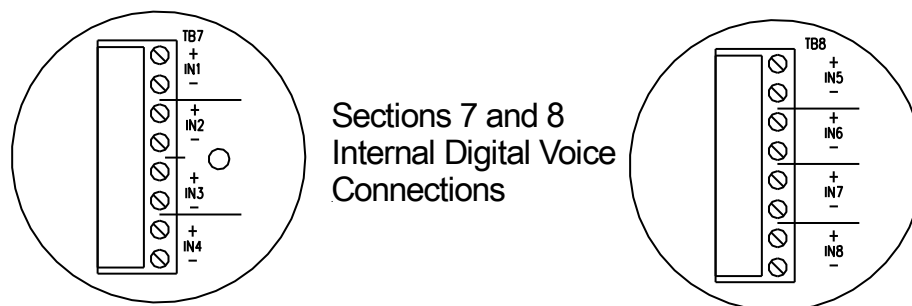

Figure 15 Digital Voice initiating Connections
- While observing correct polarity, connect the Digital Voice Initiating connections (IN1, IN2, IN3, IN4, IN5, IN6, IN7, IN8) to the connections on TB7 or TB8 as desired. See Figure 10 for TB7 and TB8's locations. Figure 15 is an enlarged picture of the referred area.